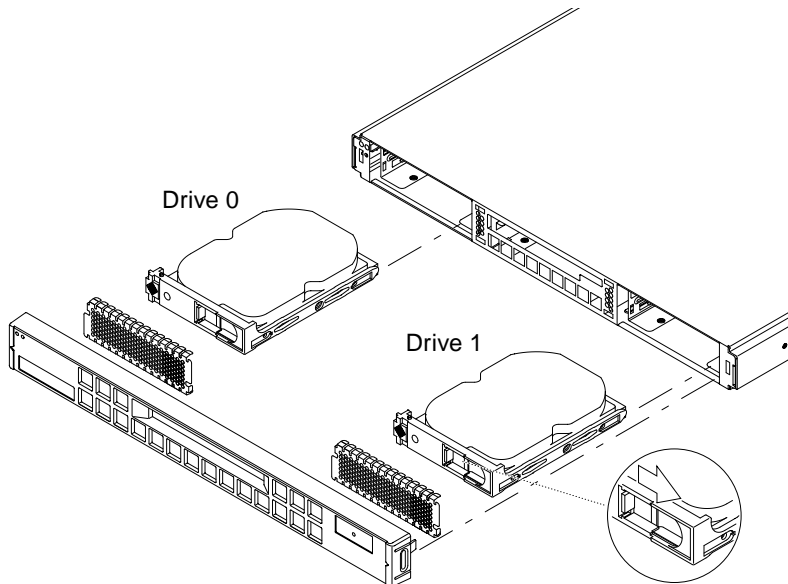

FIGURE 4-1 Inserting Hard Disks into the Drive Bays
- Installing hard disk drives, slide the disk drive(s) into their trays in the front of the system (see FIGURE 4-1). Press them firmly to ensure they are engaged with the backplane connector.
- Removing hard disk drives, lift the ejector latch (see FIGURE 4-1) at the front of each disk drive you are removing and pull the drive out.
Key to FIGURE 4-1: